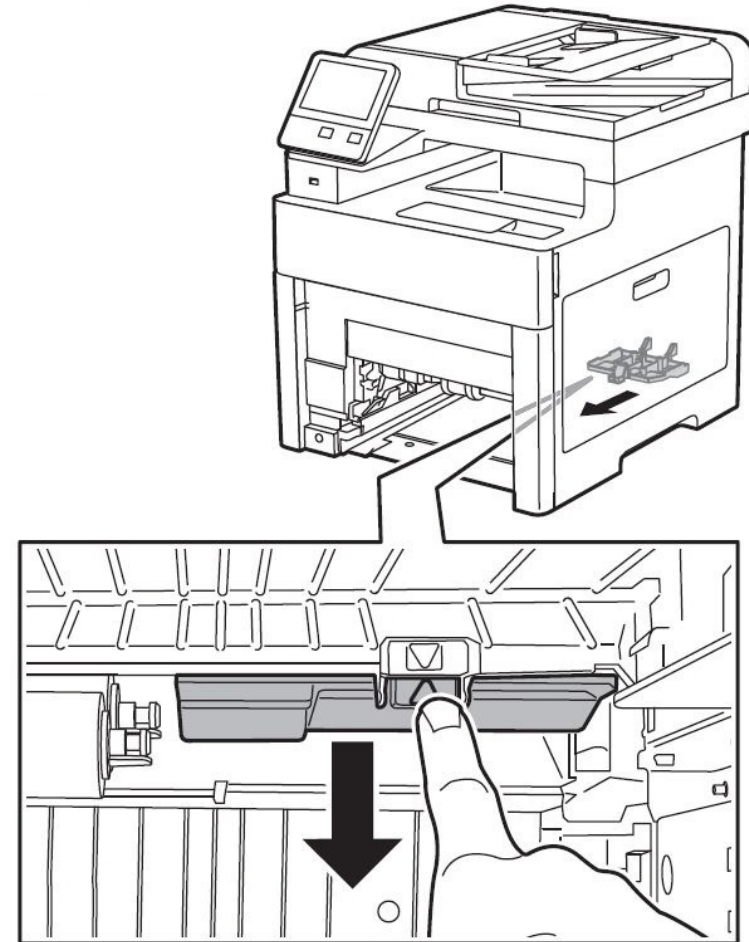

Figure 1 Remove the Upper Feed Chute
3. Refer to Figure 1 to remove the Upper Feed Chute.